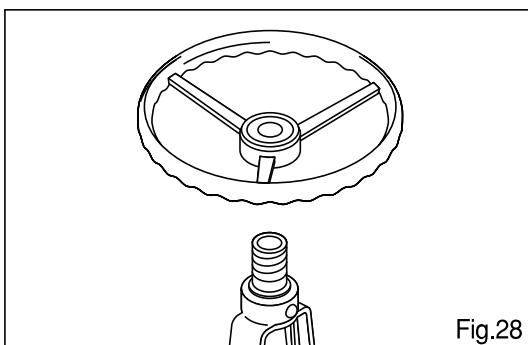

Fig.28
3. Remove handle ⑫ from the yoke sleeve ⑨. (Fig.28)